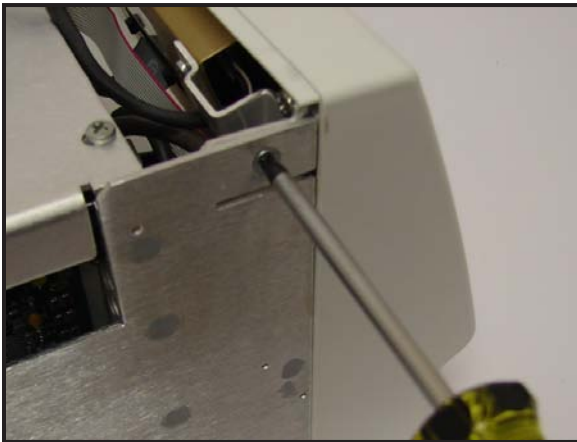

Figure 6-8
2. Use a Phillips screw driver to remove the two screws (on both sides of the monitor) that attach the front bezel to the chassis (See Figure 6-8).
6. Use a Phillips screw driver to remove the two screws (on both sides of the monitor) that attach the front bezel to the chassis (See Figure 6-8).
5. Use a Phillips screw driver to remove the two screws (on both sides of the monitor) that attach the front bezel to the chassis (See Figure 6-8).